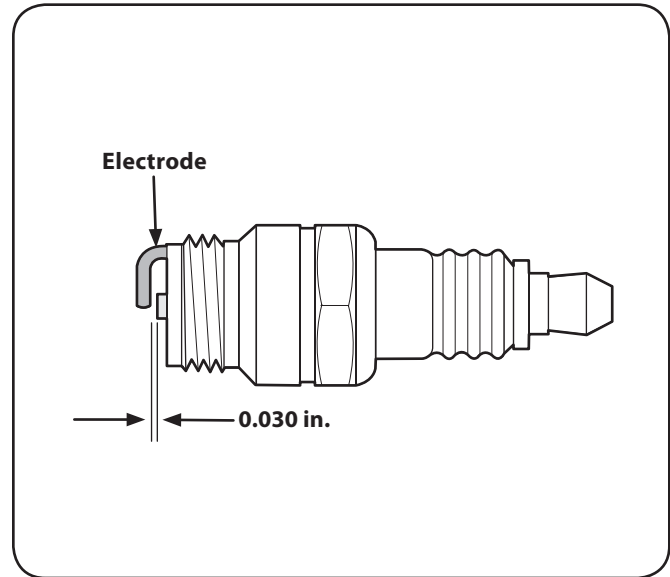

Figure 11-4
3. Measure the plug gap with a feeler gauge. Correct as necessary by bending side electrode. See Fig. 11-4. The gap should be set to 0.030 in.